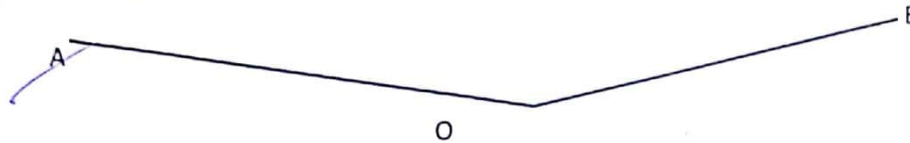

Figure 1
1. As a highway runs in a valley, the vertical profile shown in Figure 1 is encountered.
- With a drawing, show how we check whether the safe stopping sight distance is available in Figure 1 section.